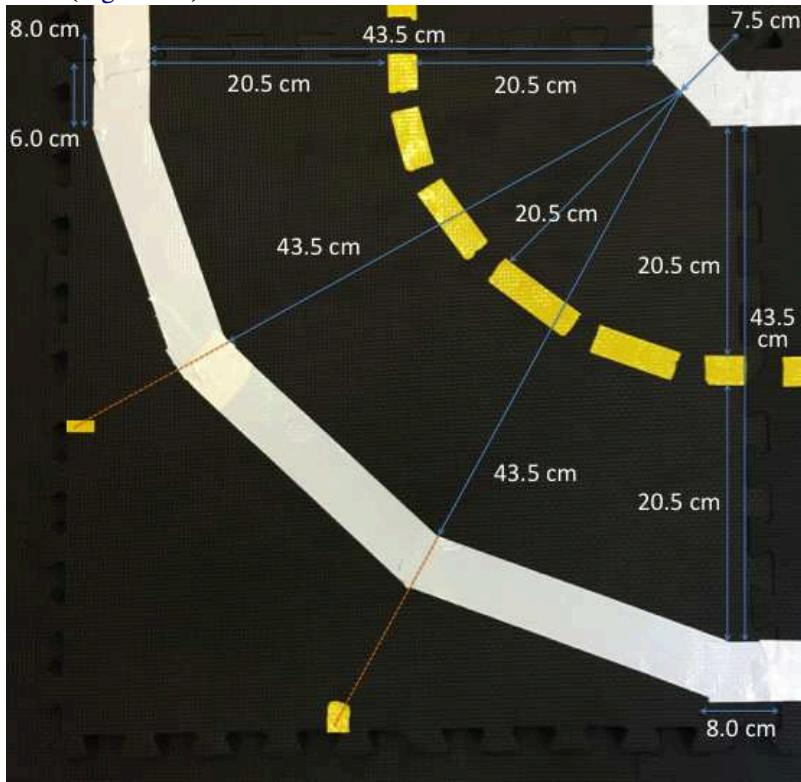

Figure 2.5. The specification for a curved road tile
- For curved roads, the white lane marker is formed by five pieces of white tape, while the inner corner is formed by three pieces, placed according to the specifications in the image below, where the edge pieces are matched to adjacent straight or curved tiles (Figure 2.5).